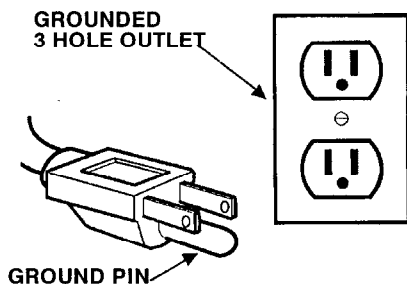

FIG. 1.
2. Plug the extension power cord into a grounded (earthed) receptacle outlet. See Figure 1.